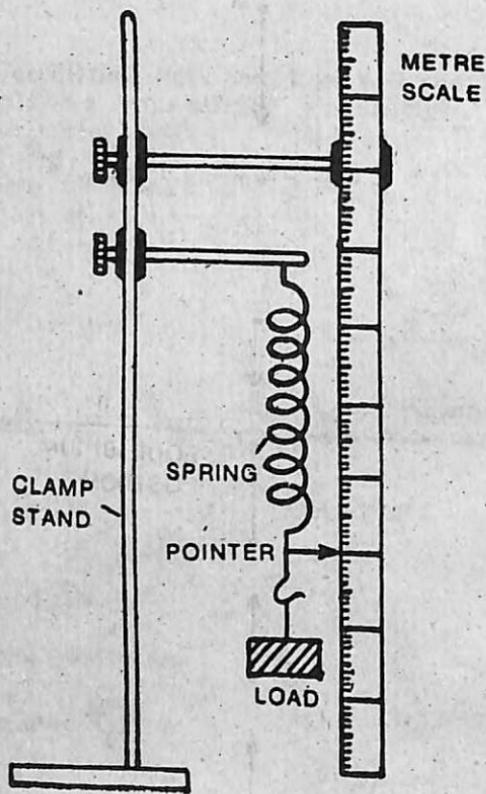

Fig. 35.3.
1. Set up the apparatus as shown in Fig. 35.3.